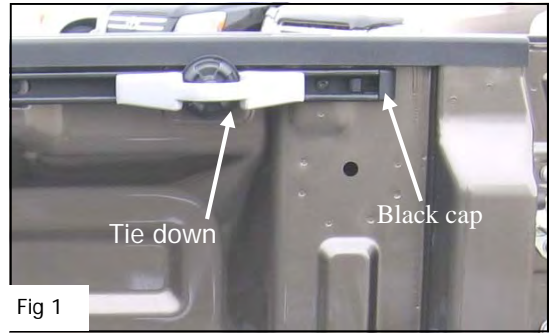
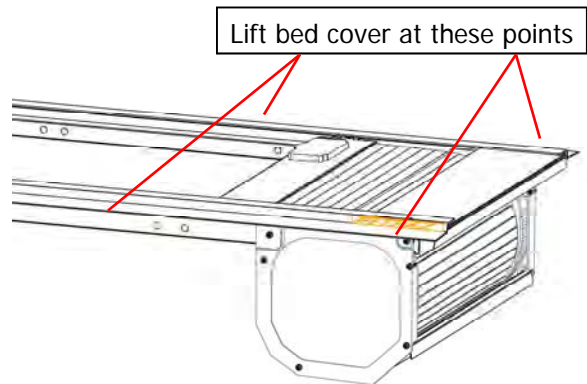

Fig 1
Fig 2
Remove and save the black plastic cap at the rear of the Deck Rail track system on both sides of the truck (**Figure 1**). Loosen and slide out the movable truck tie downs on each side of the bed. Insert (1) mounting cleat into the track system on each side, position it about 15" from the front of the bed. (**Figure 2**) **Important: Hole should be toward bottom of channel as shown. Then re-insert the tie down clamps on each side of the bed, before inserting 2nd cleat.** After putting tie downs back into bed, insert 2nd mounting cleat into track system on each side, positioning it approximately 8" from tailgate. Finish by re-inserting the black plastic cap into the rear of the track system.